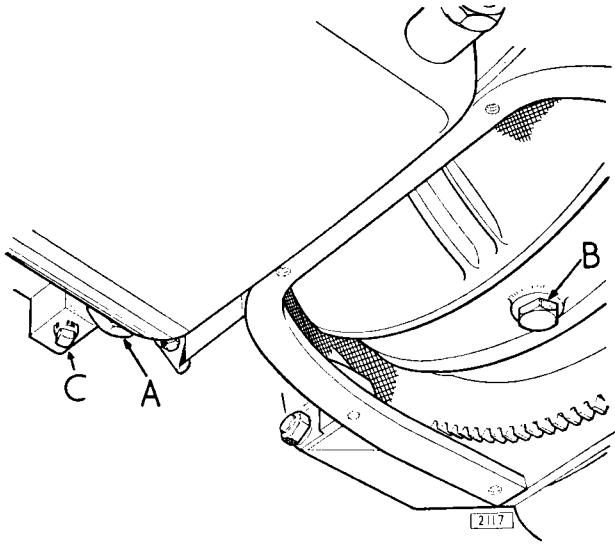

Fig. 1. Automatic transmission drain plugs (the converter housing cover plate has been removed)
4. Remove the transmission oil pan drain plug (A, Fig. 1).
5. Remove the converter housing cover plate and rotate the converter until the drain plug is in position for draining. Remove the converter drain plug (B).
6. To facilitate draining, remove the square-headed converter pressure take-off plug (C) from the bottom of the housing attached to the left-hand side of the transmission casing.